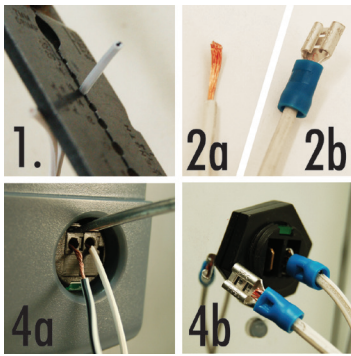

Fig.3 Low voltage wire connection
2. Refer to Fig. 3 for visual aid: